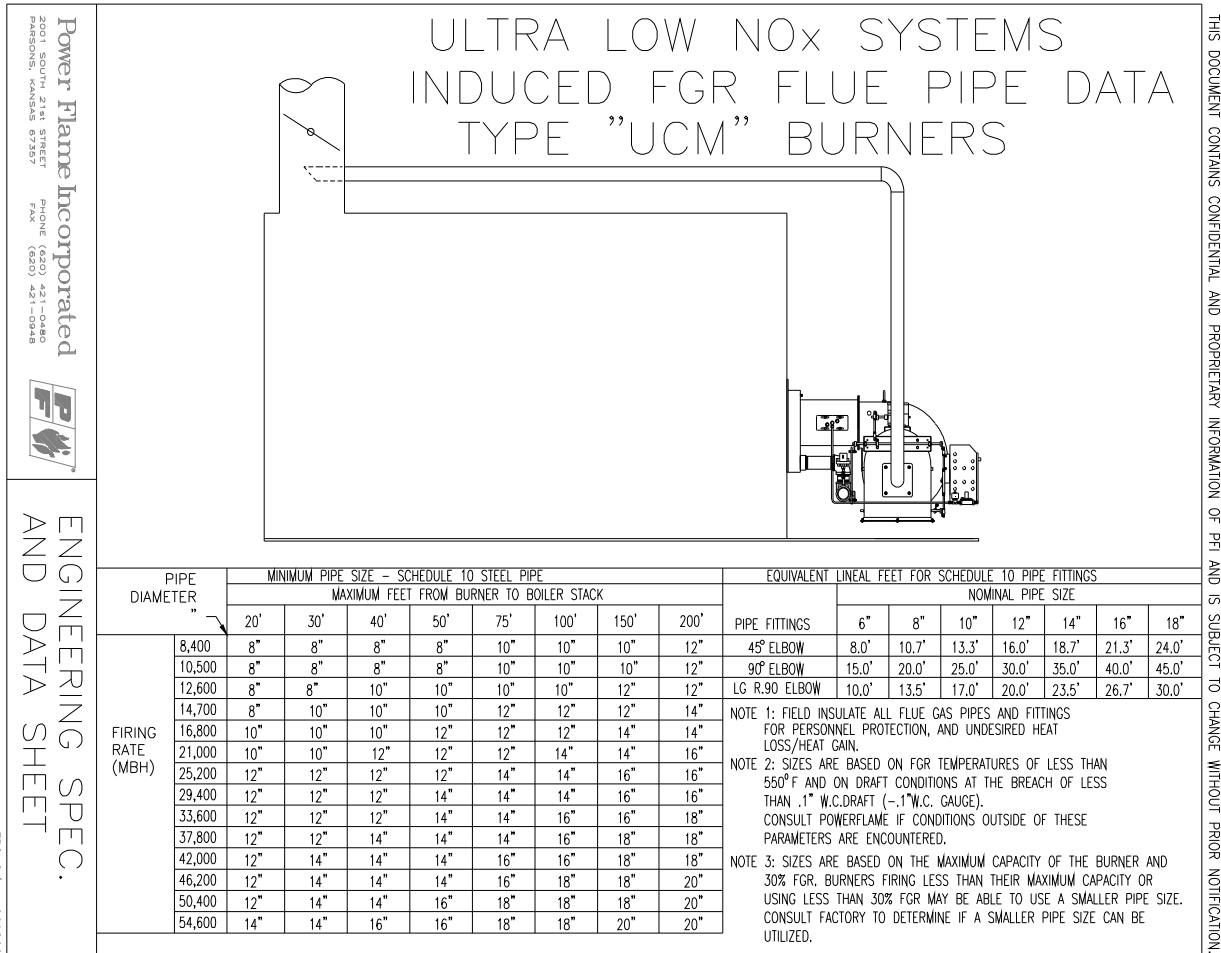

Figure 7: IFGR piping specs
- 4.3.1 The IFGR Low NO_x adapter is pre-mounted to the UCM burner and IFGR pipe sizing recommendations are included in Figure 7. The IFGR piping is not provided by Power Flame.
- 4.3.2 Install the IFGR pipe from the stack, or last pass smoke box, to the burner IFGR connecting flange. If the takeoff is from the stack, it should be upstream of any stack damper or barometric damper. If a barometric damper is used, care must be taken to ensure that fresh air infiltration into the IFGR system does not occur. It is recommended that the IFGR pipe extends to the center of the stack and includes a 45° miter cut facing down into the stack flue gas flow (see Figure 7). Seamless carbon steel pipe or tubing is recommended for the IFGR pipe.
- 4.3.3 The IFGR piping should be routed to minimize pipe length and number of fittings. In higher draft applications, increased pipe sizes from that recommended in Figure 7 may be required.